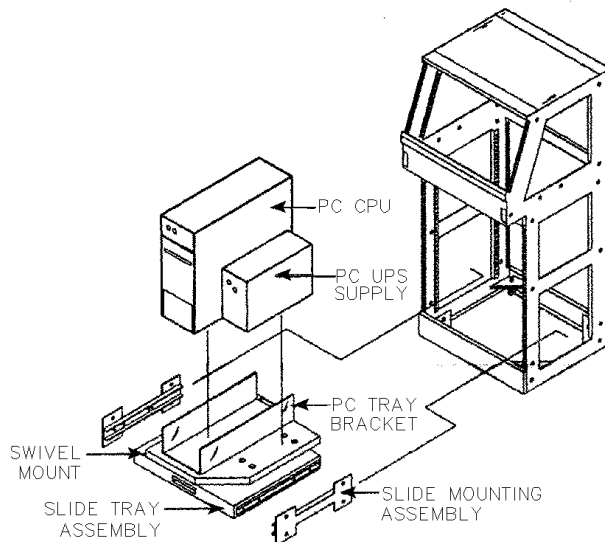

Figure 4-1 PC AND UPS SLIDE TRAY ASSEMBLY
2	Slide Assembly (see Figure 4-1)
1	Slide Assembly (see Figure 4-1)
- Attach the slide mount assemblies to the bottom of the console using eight (8) Tinnerman clips (280621122400) and eight (8) 12-24x pan head Phillips screws (280124102412) to the left and right sides. If you have E.F. JOHNSON cabinetry, use the second hole and eighth hole from the bottom.
- Slide the Slide Tray Assembly onto the slide mounts. Refer to Figure 4-1.
- Replace the two screws that were removed with two (2) 6-32x1/2 pan head Phillips screws (furnished).
- Place the PC UPS (TDV-OP400/XX) onto the swivel mount so that the feet engage the holes. Refer to Figure 4-1.